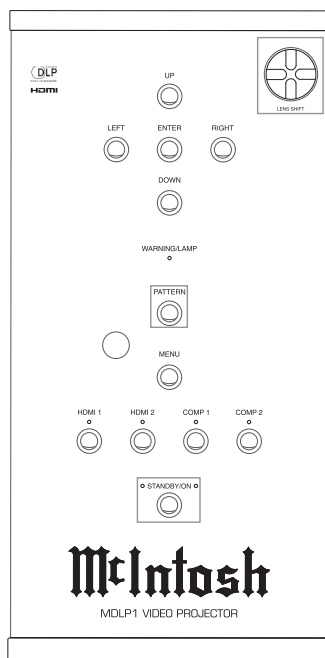

Figure 3
3. The Red LED to the left of the STANDBY/ON Push-button lights to indicate the MDLP1 is in Standby mode. To Switch ON the MDLP1, press the STANDBY/ON Push-button on the Projector Control Panel or the PROJector ON Push-button using the Remote Control. The Green LED to the right of the STANDBY/ON Push-button lights to indicate the MDLP1 is ON. Refer to figures 3 and 4.
4. Press the PATTERN Push-button on the Control Panel or the Remote Control. Refer to figures 3 and 4.
8. Using the LENS SHIFT Control, located on the Top Control Panel, center the image vertically on the screen. Refer to figures 3, 8 and 9.